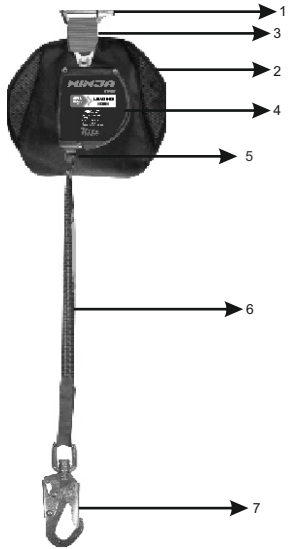

Figure 2- About the Ritz Safety Class 2 Leading Edge SRL
In below Figure 2, the SRL Class 2 is housed in a strong nylon casing that contains a synthetic lifeline wound around a spring-tensioned drum. The lifeline is equipped with a stop and a leg-end connector. Once attached, the lifeline extends and retracts with the user's movements, keeping it taut at all times. If a fall occurs, a centrifugal pawl system activates to stop the lifeline from extending further. During the fall, the SRL-FBH Connector will detach from the Shear Connector, and the built-in Energy Absorber (EA) will deploy, gradually slowing and arresting the fall.